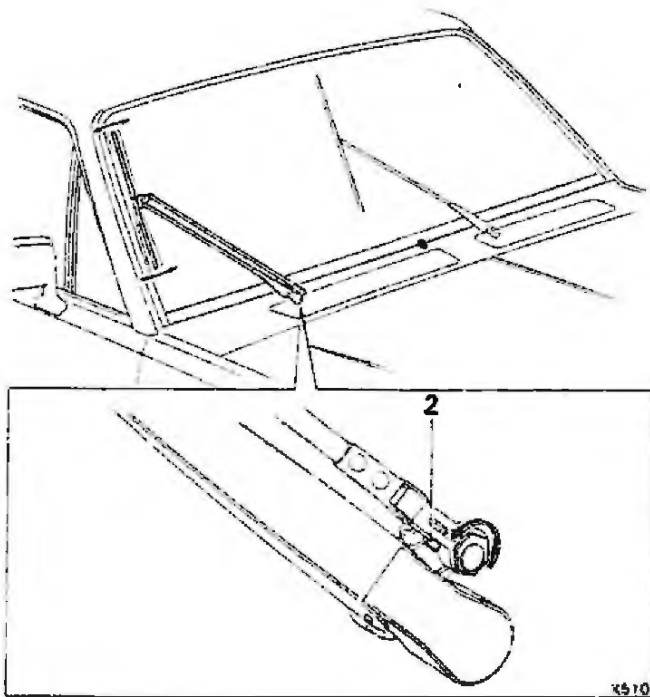

Fig. 8
- 26B Rotate the eccentric adjuster '2' to align the wiper arm with the 'A' post (see fig. 8).